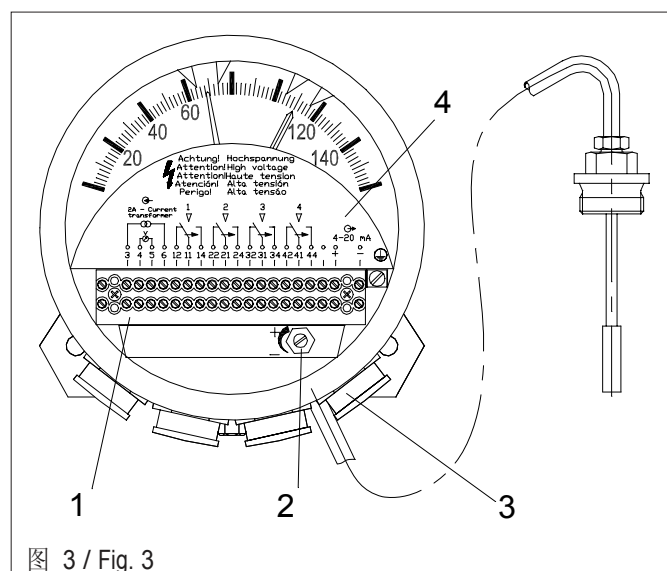

图 3 / Fig. 3
4.1 微动开关的连接 (图 3)
4.1 Connecting the microswitches (Fig. 3)
按照端子（图 3/1）盖板上的连接图（图 3/4）松开各导线。
如 4.1 所述，按照盖板（图 3/4）内的连接图连接好感应器的导线。传感器须供给 12-30 伏电压。因此可以使用一个额外的供电装置（24 伏/直流）或一个有内部供电的显示器。传感器使用的是 2 线连接技术。注意不要弄错极性！
individual leads in accordance with the connection diagram (Fig. 3/4) printed on the covering plate on the terminal strip (Fig. 3/1).
The leads for the sensor are connected as described in 4.1 in accordance with the connection diagram shown on the inside of the covering plate (Fig. 3/4). The sensor has to be supplied with a voltage of 12...30V. Therefore you can use an additional power supply unit (24V/DC) or an indicator with an internal power supply. The sensor is performed in 2-wire technique. Take care on the right polarity!
用调节电阻 (图 3/2) 的设定螺丝设定加热电流。将螺丝向右转则升高加热电流。向左转则降低加热电流。
Set the value for the heating current on the setting screw for the adjustment resistance (Fig. 3/2). Turn the screw to the right and the heating current rises. Turn the screw to the left and the heating current falls.